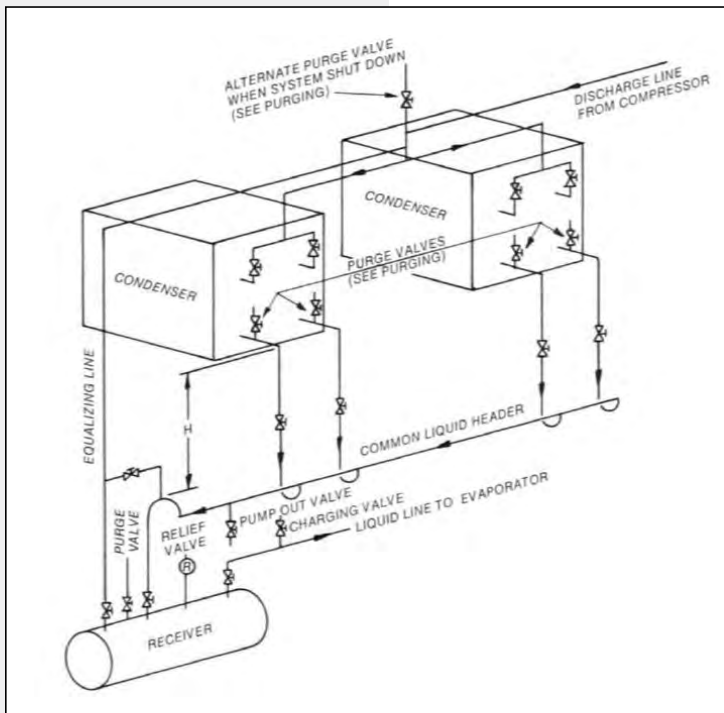

Figure 13a. Parallel Piping with Common Liquid Header above Receiver Level Alternative 1
See **Figures 13a** and **13b** for the refrigerant piping connections for multiple units:
- It is desirable to trap the liquid header as shown in **Figure 13a**. Trapping the header will insure a stable operating condition for the condensers. If the liquid header is not trapped, there will be times, particularly at initial start-up, where there will be erratic condenser operation until all liquid leg seals are stabilized. Piping must be sized for 100 fpm drain velocities, and should be sloped a minimum of 1/4" per foot toward the receiver.